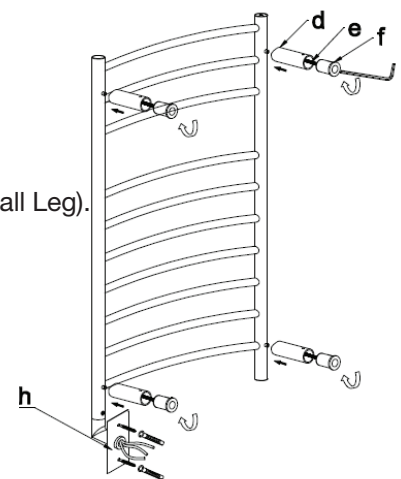

Figure 2
Step 2: Installing metal wall legs (figure 2)
- o g: Set Screw (this part may already be installed inside the Metal Wall Leg) (see Figure 2).
- o Set Screw g is inserted in Metal Wall Leg d (see Figure 2).